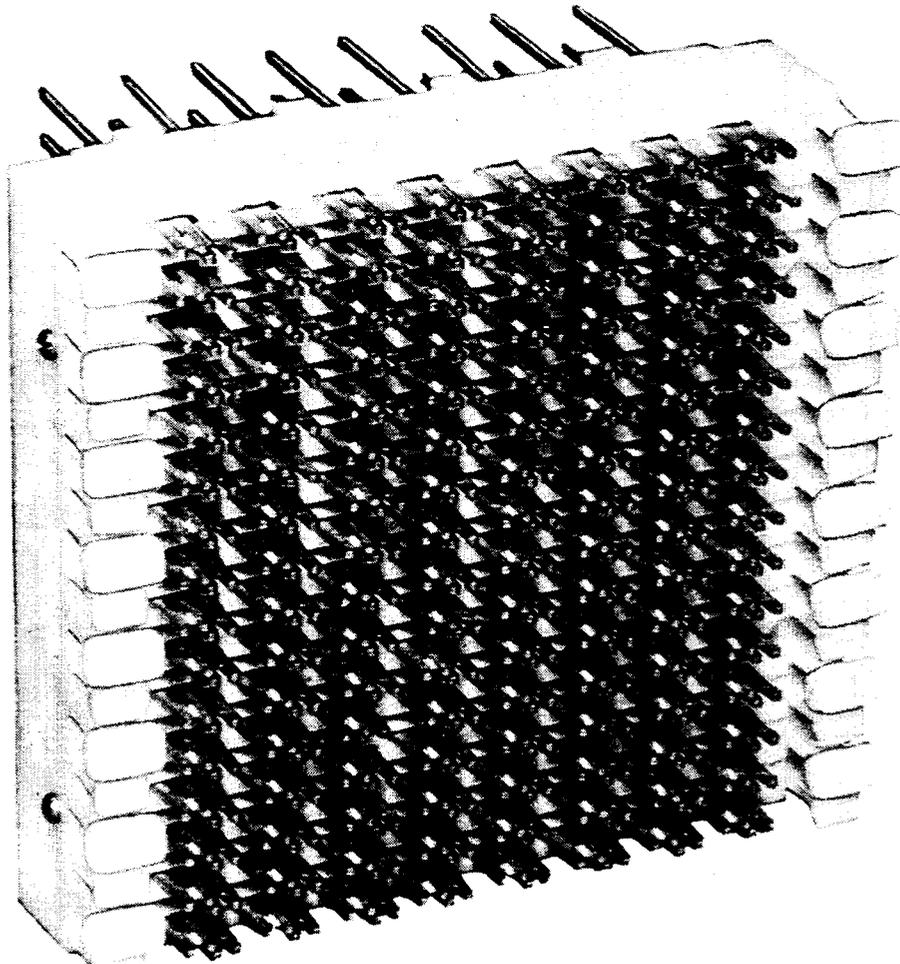

Figure 33—78B1-64 Connecting Block
8.08 The 78A- and 78B-type connecting blocks (Figure 33) are used with the *ESS* modular distributing frames, and are recommended replacements for 66G- and 66H-type connecting blocks.